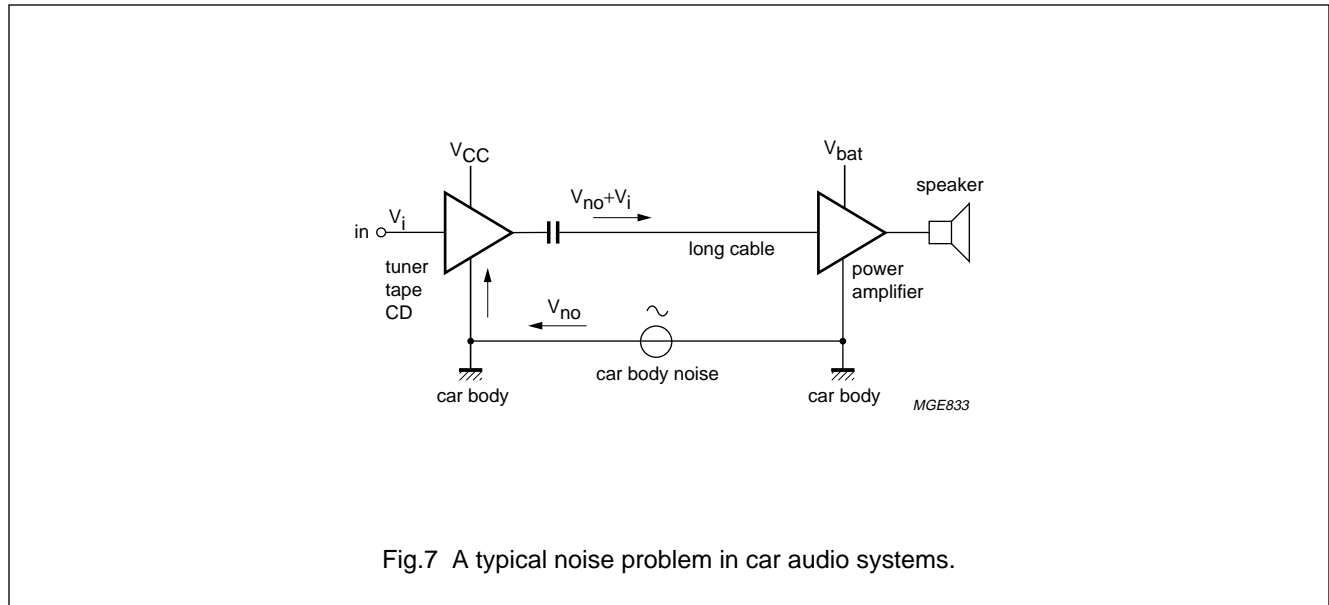

Fig.7 A typical noise problem in car audio systems.
Due to wiring resistance and noise coming from various electric devices in the automobile, performance loss will appear in those car audio applications where long connections between signal sources and amplifiers (or boosters) are necessary. To solve these problems the TDA8575(T) is developed (see Figs 7 and 8).